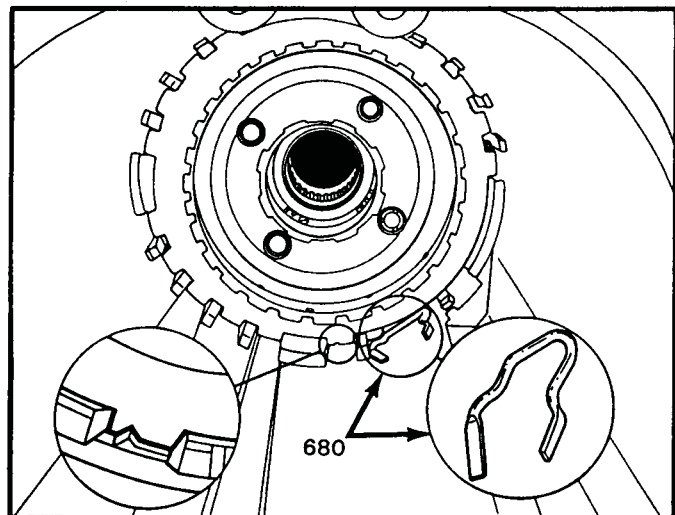

Figure 91
7. Install the "Anti-Clunk" spring in the position shown in Figure 91, and retain with Trans-Jel.